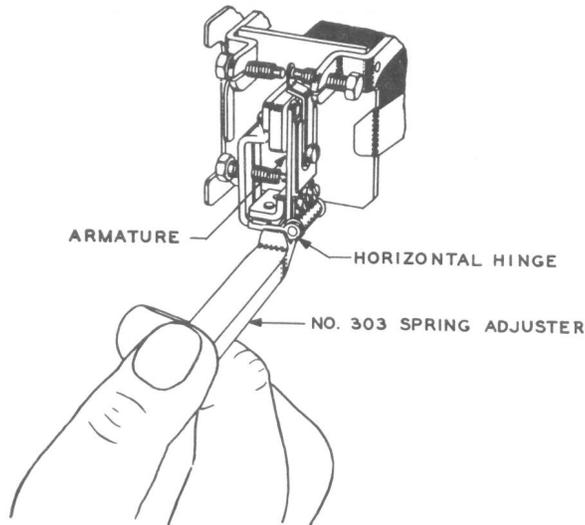

Fig. 9 - Method of Adjusting the Horizontal Hinge
(1) If the side play is excessive or there is binding of the armature, carefully adjust the horizontal hinge toward or away from the armature as required with the No. 303 spring adjuster as shown in Fig. 9.